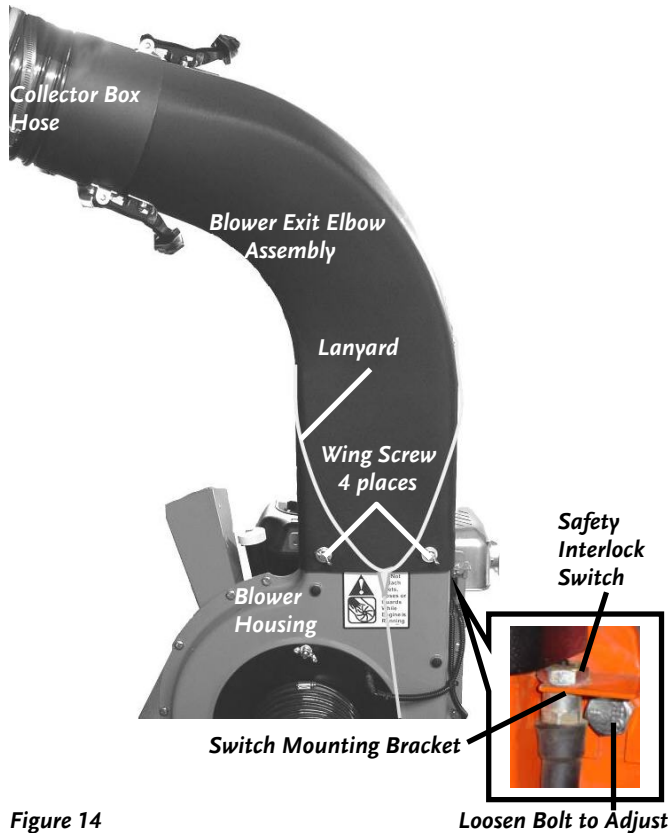

Figure 14
1. Install the Blower Exit Elbow Assembly on top of the Blower Housing with the elbow pointing toward the Collector Box (**Figure 14**).
2. Align the hood of the Blower Exit Elbow Assembly to ensure that the Safety Interlock Switch is engaged, verify the position of the Lanyard as shown, and then install a Lock Washer and Flat Washer over each of the four (4) 5/16" x 1/2" Wing Screws and hand tighten them to the Blower Housing (**Figure 14**).